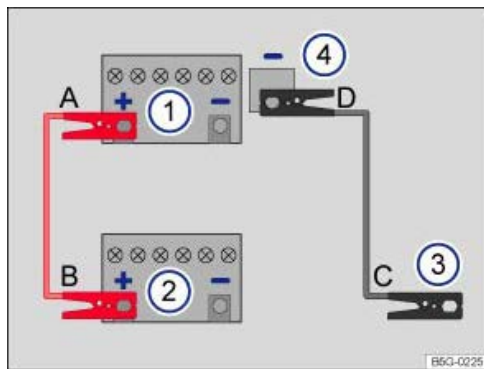
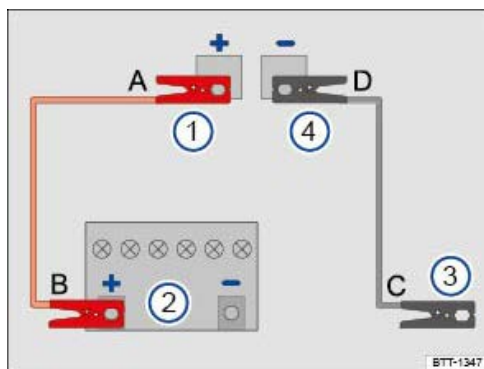

Fig. 247 Diagram for connecting the jump leads (battery in the engine compartment).
Fig. 248 Diagram for connecting the jump leads (battery in the luggage compartment).
Key for → *Fig. 247* and → *Fig. 248*:
The jump leads should be connected only in the order A – B – C – D → *Fig. 247* .
- Connect one end of the *red* jump lead to the positive terminal (+) in the vehicle with the discharged battery → *Fig. 247* ① → ⚠.
- Connect the other end of the *red* jump lead to the positive terminal (+) of the vehicle battery providing assistance → *Fig. 247* ②.
- Connect one end of the *black* jump lead → *Fig. 247* ③ to a suitable jump start connection point (earth connection) or, if this is not available, to the screwed-in towing eye at the front, to a solid metal part that is securely bolted onto the cylinder block, or to the cylinder block itself.
- On the vehicle with the flat battery, connect the other end of the *black* jump lead → *Fig. 247* ④ to a jump-start connection point (earth connection) → *Jump start connection point (earth connection)* or, if this is not available, to the screwed-in towing eye at the front → *Tow-starting and towing* or to a solid metal part that is securely bolted onto the cylinder block, or to the cylinder block itself → ⚠.
The jump leads should be connected only in the order A – B – C – D → *Fig. 248* .
- Connect one end of the *red* jump lead to the jump lead connection point (positive terminal, +) of the vehicle with the discharged battery → *Fig. 248* ① → ⚠.
- Connect the other end of the *red* jump lead to the positive terminal (+) of the vehicle battery providing assistance → *Fig. 248* ②.
- Connect one end of the *black* jump lead → *Fig. 248* ③ to a suitable jump start connection point (earth connection) or, if this is not available, to the screwed-in towing eye at the front, to a solid metal part that is securely bolted onto the cylinder block, or to the cylinder block itself.
- On the vehicle with the flat battery, connect the other end of the *black* jump lead → *Fig. 248* ④ to a jump-start connection point (earth connection) → *Jump start connection point (earth connection)* or, if this is not available, to the screwed-in towing eye at the front → *Tow-starting and towing* or to a solid metal part that is securely bolted onto the cylinder block, or to the cylinder block itself → ⚠.
- When the engine is running, the jump leads should only be removed in the order D – C – B – A → Fig. 247 or → Fig. 248.